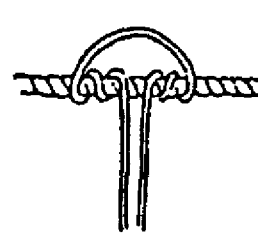

Fig. 3-31-3
- c. Pass the ends through the loop again in the same fashion. (Fig. 3-31-3)